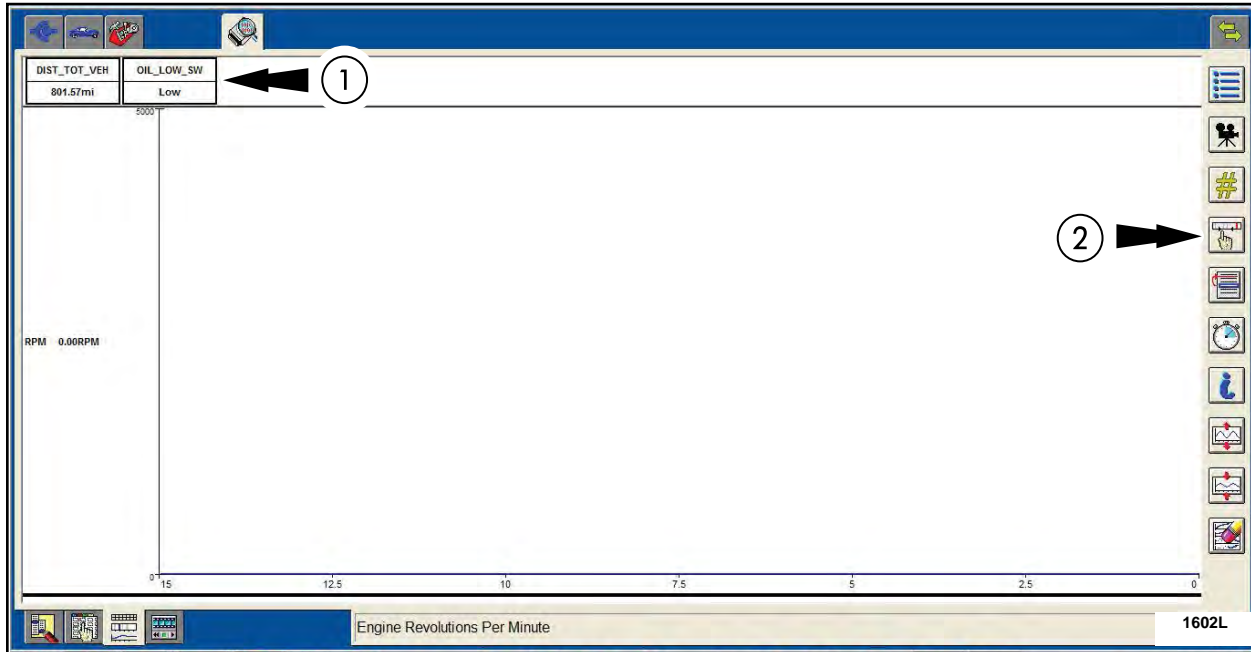

FIGURE 5
4. On the graph screen, select the OIL_LOW_SW PID in the upper LH corner of the screen and then click the plot format button. See Figure 5.